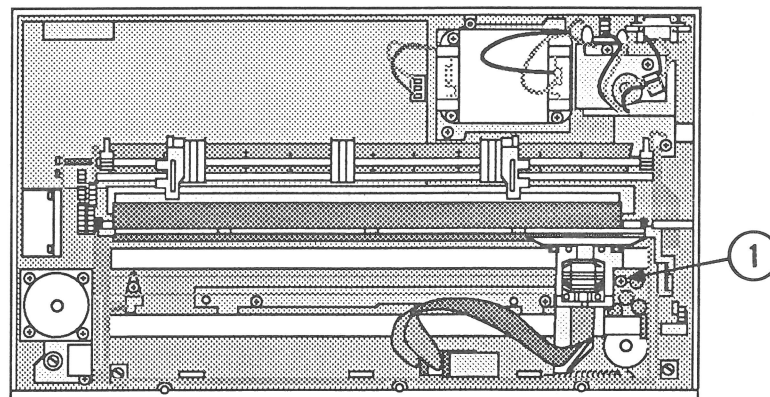

FIGURE 41
2. Loosen the Phillips screw that binds the ribbon gear unit in place (Figure 41, #1).